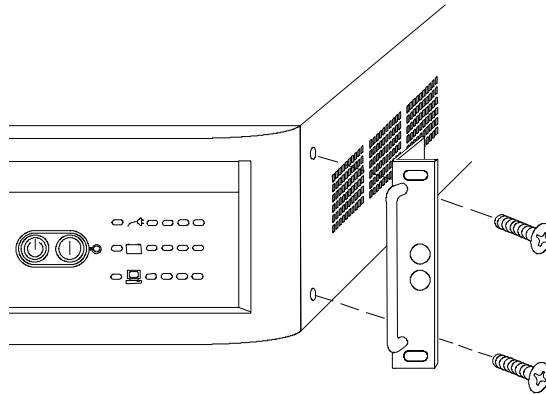

Figure 2. Attaching the Mounting Bracket (1000-1500 VA)
2. If the mounting brackets are not already installed, position the mounting bracket over the mounting holes on one side of the unit and secure with the provided screws (see Figure 2).